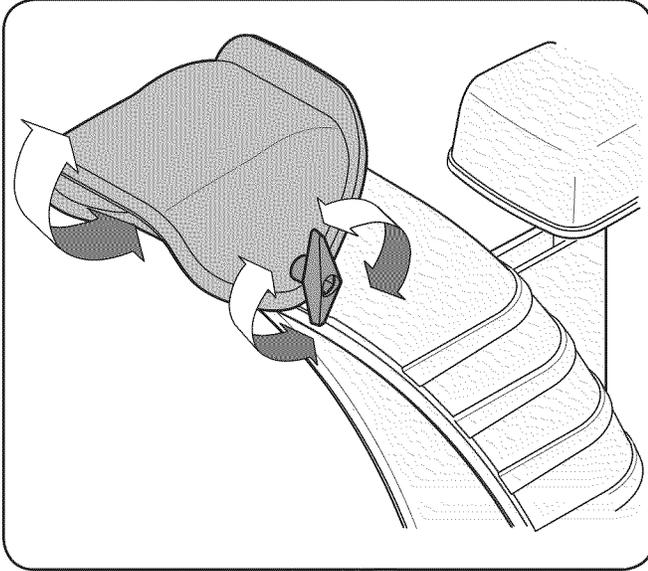

Figure 3-20
2. Pivot the chute upward or downward before retightening the wing knob. See Fig. 3-20.